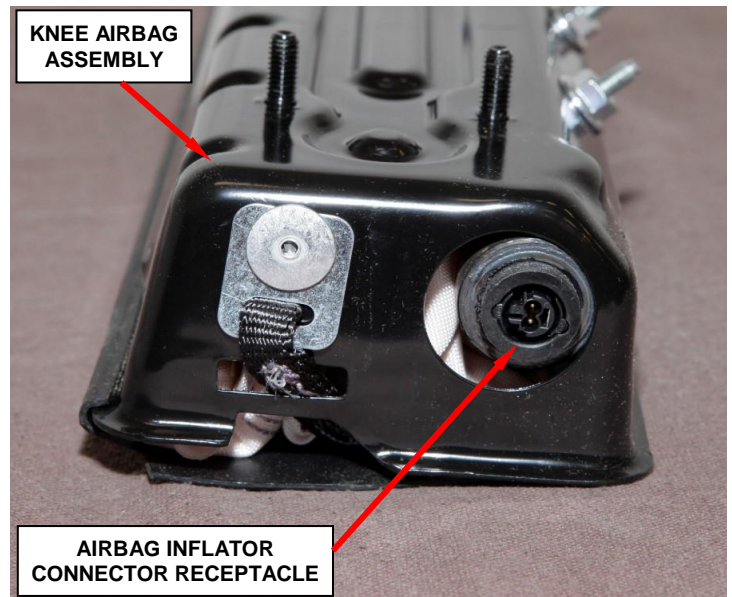

Figure 4 – Airbag Inflator Connector Receptacle
10. The knee airbag connector insulator is secured by integral latches and a Connector Position Assurance (CPA) lock to the airbag inflator connector receptacle (Figure 4). Pull the lock straight out from the connector insulator, then pull the insulator straight out from the connector receptacle to disengage and disconnect it.
13. Connect the connector insulator of the instrument panel wire harness take out for the knee airbag to the inflator initiator connector receptacle by pressing straight in on the connector (Figure 4). Be certain that the connector is fully engaged in its receptacle, then push the Connector Position Assurance (CPA) lock straight into the connector to lock it into place.